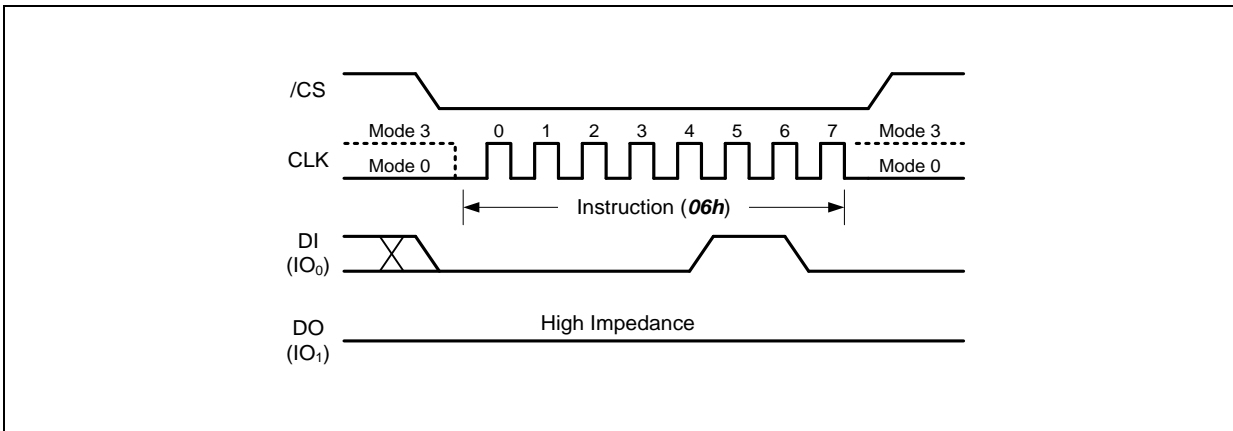

Figure 9. Write Enable Instruction
The Write Enable instruction (Figure 9) sets the Write Enable Latch (WEL) bit in the Status Register to a 1. The WEL bit must be set prior to every Page Program, Quad Page Program, Block Erase, Chip Erase and Bad Block Management instruction. The Write Enable instruction is entered by driving /CS low, shifting the instruction code “06h” into the Data Input (DI) pin on the rising edge of CLK, and then driving /CS high.